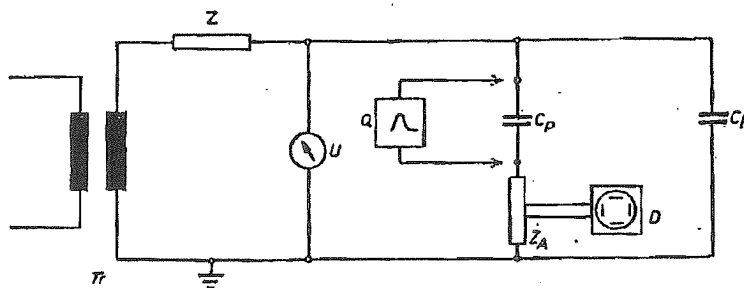

Fig. 6
b) Test connection coupling quadripole series connected with test loops (see Fig. 6).